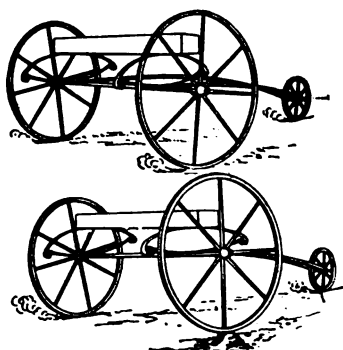

FIG. 10
**W**HEN springs are properly designed for the particular work they have to do they will harmonize the relative movements of the chassis and the running gear, allowing the wheel and axles to pass over obstructions just as though they had practically no load other than their own weight to carry, and freezing them almost completely of impact and shock forces. To take a concrete example, assume a three wheel truck, fitted with springs and loaded with a 1,000 pound weight, to be traveling at 30 miles per hour along a road, when it meets an object about two inches high. At this speed and with an object of the approximate dimensions shown in Figure 10, the wheel will rise two inches and fall again in the space of 0.0076 second. To raise and lower the 1,000 pound